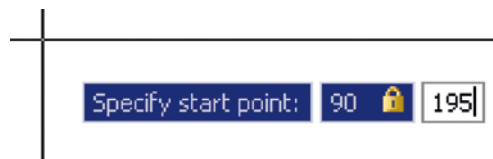

Fig. 3.26 Dynamic Input – first example – **Polyline** – the first prompt
2. To start the construction *click* at any point on screen. The prompt for the polyline appears with the coordinates of the selected point showing. *Left-click* to start the drawing (Fig. 3.26).